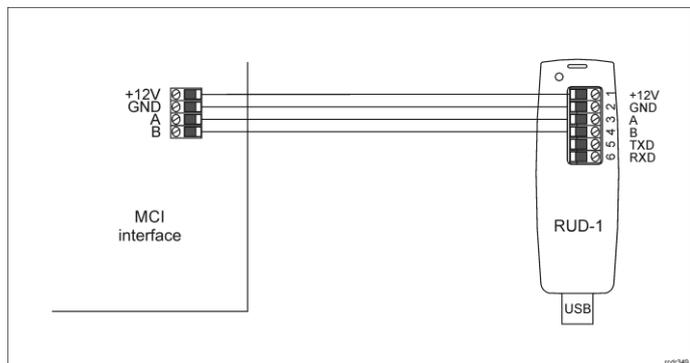

Fig. 1 Connection of the MCI-2 to RUD-1 interface for configuration
1. Connect the device to RUD-1 interface (fig. 1) and connect the RUD-1 to computer's USB port.